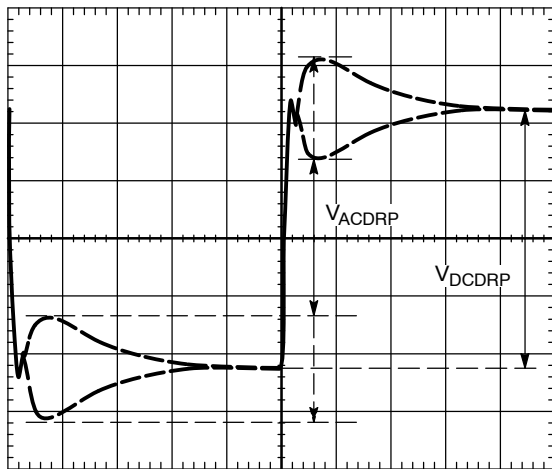

Figure 28. AC Load Line Waveform
5. The resulting waveform will be similar to that shown in Figure 28. Use the horizontal cursors to measure V_{ACDRP} and V_{DCDRP} , as shown in Figure 28. Do not measure the undershoot or overshoot that occurs immediately after the step.